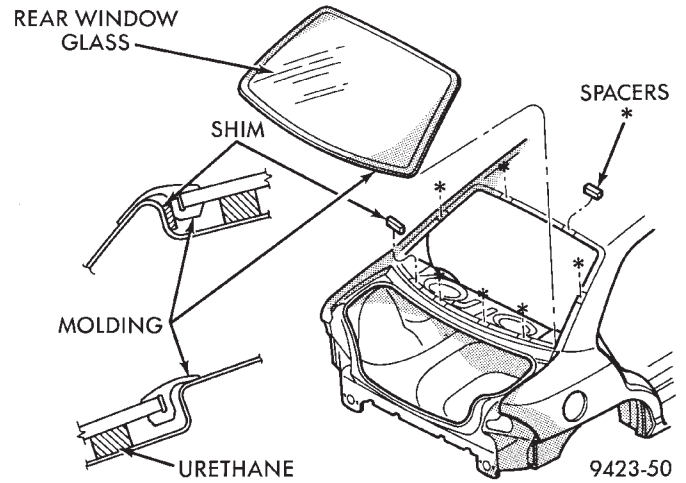

Fig. 7 Rear Window Glass – Typical
- (1) Prepare the work area, window fence, and glass the same way as described in the Windshield section of this group.
- (2) Place fence spacers at the locations shown (Fig. 7).
- (3) Install the rear window molding on glass.
- (4) Apply a 10 mm (0.4 in.) bead of urethane along center line of window fence.
- (5) Install the glass in the same manner described in the Windshield section of this group (Fig. 7).
- (6) Connect rear window defogger wiring, and rear window mounted radio antenna, if so equipped.
- (7) Install C-pillar applique, and interior trim.
- (8) After urethane has cured, water test rear window to verify repair. Verify rear window defogger operation, see Group 8N, Rear Window Defogger.